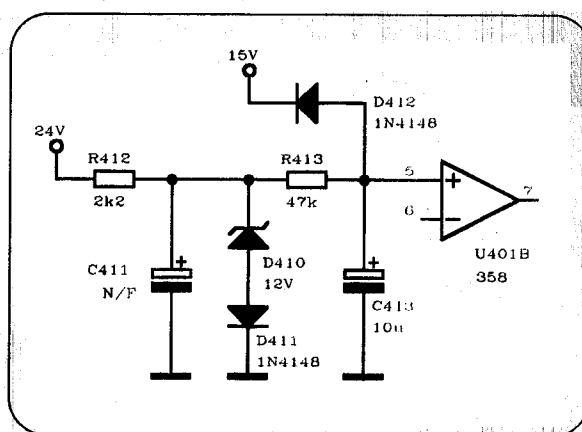

FIG. 4.1
*) - D412 will be mounted on the reverse side of PCB, sleeved, with the cathode connected at pin3 of JP7 (15V rail). The anode will be connected in the same point as before(fig. 4.1).